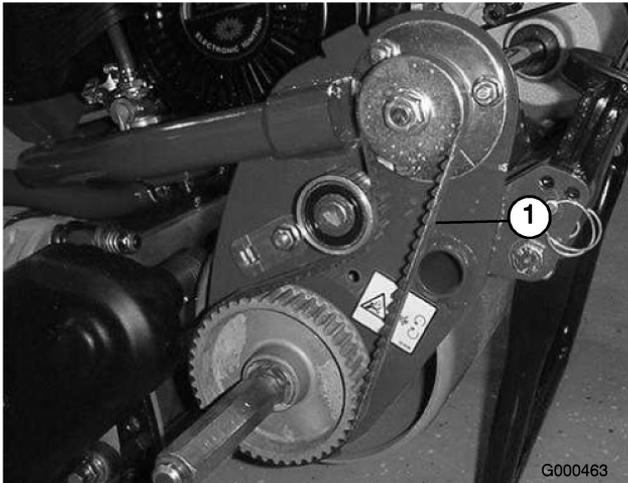

Figure 39
2. Check tension by depressing belt (Figure 39) at mid span of pulleys with 4 ± 1 lb. of force. Belt should deflect $1/4$ in. If deflection is incorrect, proceed to next step.